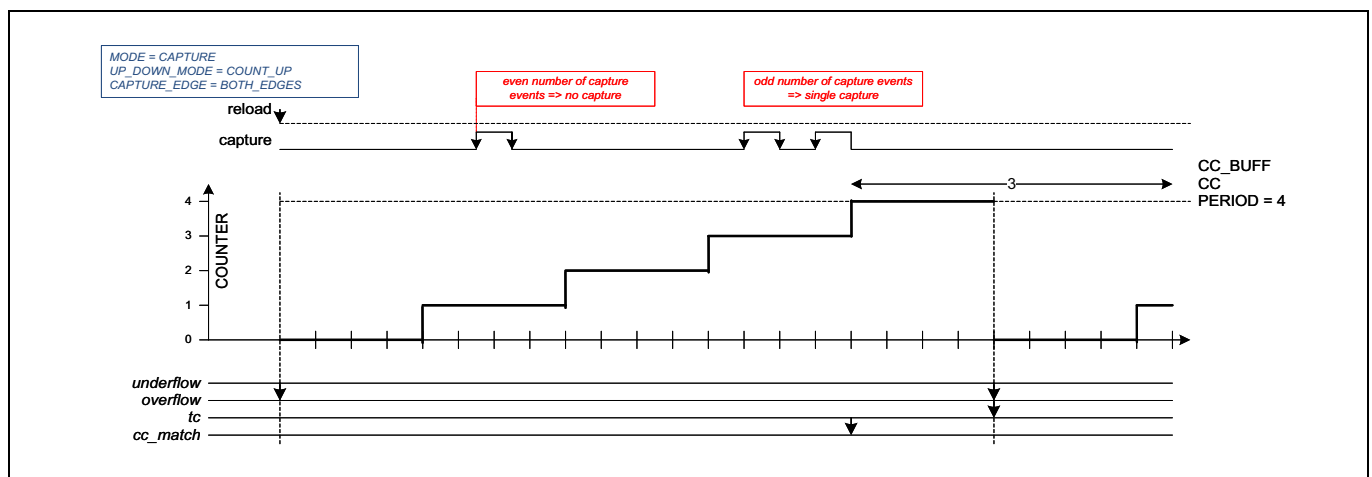

Figure 17-4. Multiple both edge capture
- In the rising/falling edge mode, an even number of events are not detected and an odd number of events are reduced to a single event. This is because the rising/falling edge mode is typically used for capture events to determine the width of a pulse. The current functionality will ensure that the alternating pattern of rising and falling is maintained (see Figure 17-4).